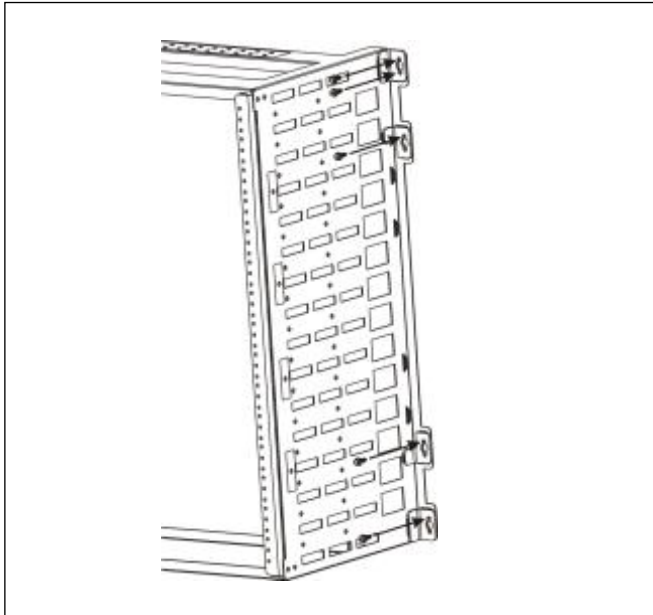

Figure 6. Mounting screw locations
- ① Select an appropriate location on a wall or backboard to install the mounting frame. Choose a mounting surface and hardware that can support the combined weight of the mounting assembly and equipment that is to be installed. Mounting to a 3/4" thick backboard with #12 x 1" screws is recommended. Maximum weight holding capacity of the WR-15U23 is 200 lbs.
- ② Determine the desired orientation of the ground lugs. The symmetrical design of the WR-15U23 frame allows it to be installed with the grounding holes facing upward or downward.
- ③ Hold the empty mounting frame firmly against the wall or backboard in a level position and mark screw locations for each of the eight mounting brackets located at the rear of the frame. The frame will be fastened with two screws in the topmost bracket on each side and one screw in each of the other brackets, as shown in Figure 6.